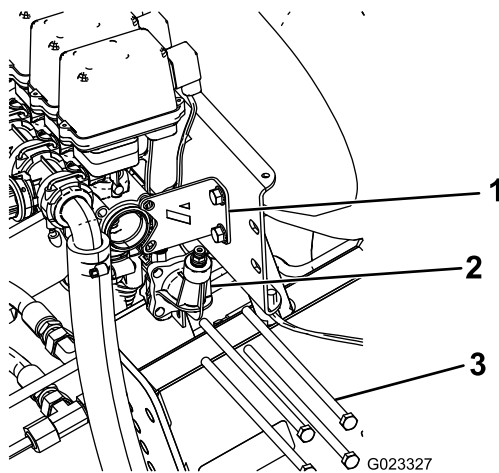

Figure 3
- Remove the 4 threaded rods securing the pressure-gauge port to the boom valves and discard them (Figure 3). Retain the flat washers and nuts.
- Remove and retain the 2 bolts and nuts securing the stabilizing bracket to the valve assembly (Figure 3).